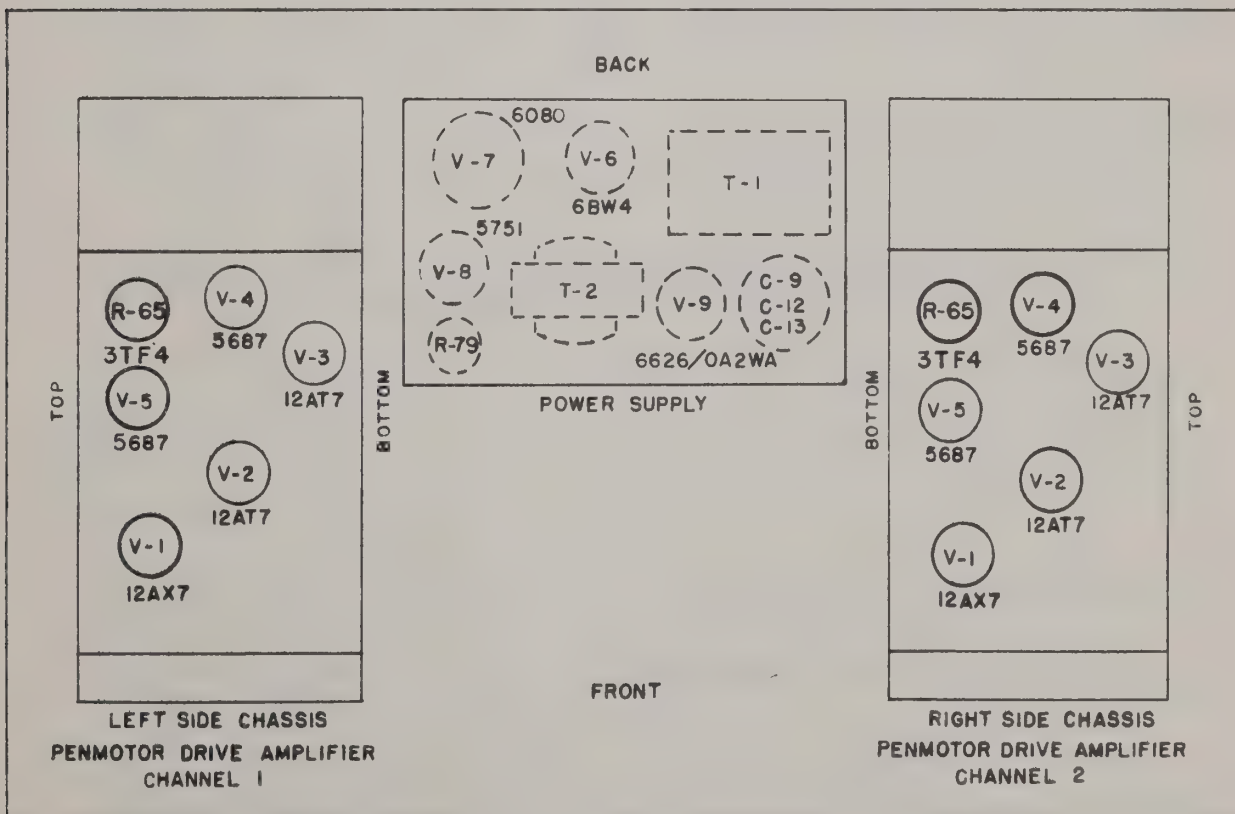

Fig. 12. Tube Layout—Dual Channel D.C. Amplifiers Models RD 5621 01 and RD 5621 02.
Following the replacement of any tube in the power supply chassis of Model RD 5621 01 or Model RD 5621 02, (Fig. 12), adjust the +B voltage to 235 volts by means of the potentiometer control R-79 (measured from the junction of C-10 and R-80 to pin 5 of the 6626/OA2WA tube (V-9)).
1. Disconnect the input power lead and capacitor lead from terminal "3" of the power transformer (T-1). Connect these two leads to terminal "2" of the power transformer. Refer to the Tube Layout (Fig. 12), and to the Schematic Diagram.